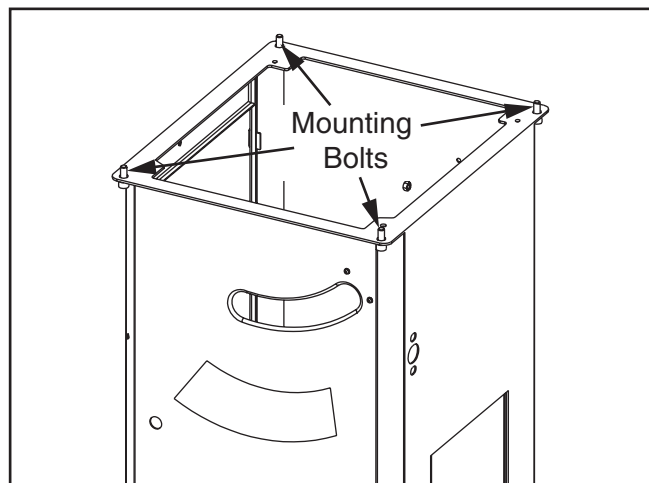

Figure 109. Location of table mounting bolts (table omitted for clarity).
6. Loosen (4) table mounting bolts securing table top to base (see **Figure 109**), and lightly tap table in direction needed to square table to blade.